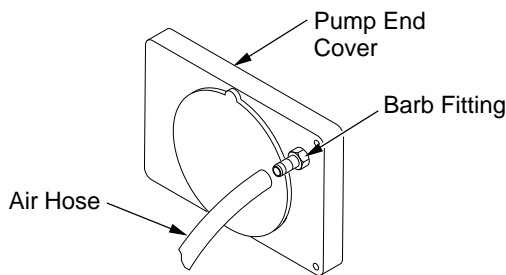

Figure 22 - Air Hose to Barb Fitting
4. Inspect fuel and air line hoses for cracks and/or holes. If fuel line hose is damaged, disconnect from nozzle adapter (see Figure 17, 18, or 19, page 11) and from fuel filter (see page 8). If air line hose is damaged, disconnect from nozzle adapter (see Figure 17, 18, or 19, page 11) and from barb fitting on pump end cover (see Figure 22).
5. Install new air and/or fuel line. Attach one end of air line hose to barb fitting on pump end cover (see Figure 22) and the other end to nozzle adapter (see Figure 17, 18, or 19, page 11). Attach one end of fuel line hose to fuel filter (see page 8) and the other end to nozzle adapter (see Figure 17, 18, or 19, page 11).